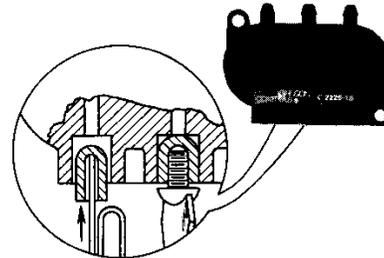

Fig. 3: Plug Installation
3. After the last slave is connected, the “L” and “S” receptacles must be plugged (see Fig. 3). The “H” receptacle is not plugged and must be open to atmosphere. Insert the small vinyl plugs into the receptacles and push them all the way in with a small probe such as a paper clip.